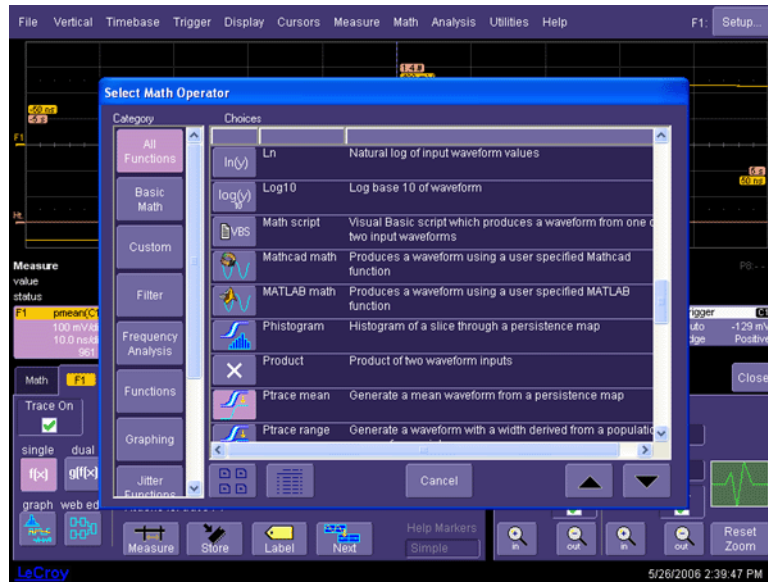

Figure 7-2. Math Menu Setup
- j. Set math trace F1 to the **Ptrace mean** of Channel 1 (Figure 7-2).